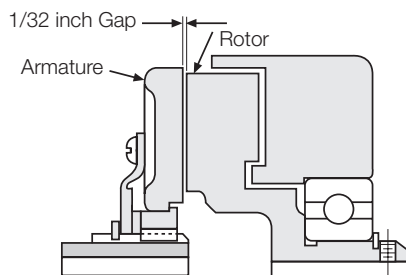

Figure 3
2. If the armature has been secured to the shaft first, then adjust the rotor's position to allow approximately 1/32-inch between the two faces. (Figure 3)
The clutch-coupling units contain spline drive armatures and hubs. The armatures are shipped with a built-in autogap spring accessory. This device automatically maintains a gap of about 1/32" between the armature and magnet faces for the life of the unit. (Figure 3)
2. If the field-and-rotor assembly has been secured to the shaft first, then adjust the armature's position to allow a 1/32-inch gap between the two faces. (Figure 3)